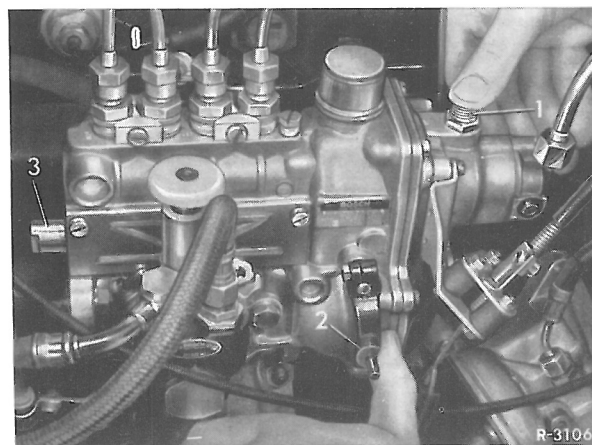

Fig. 07-46/1
2 Detach starter and stop cable from control lever (2) of injection pump. Take off protector sleeve (3) above control rod. Unscrew vacuum line from vacuum union (1). Press control rod with control lever (2) hard over to STOP and close vacuum union (1) with one finger. Then release control lever and watch control rod (see Fig. 07-46/1).